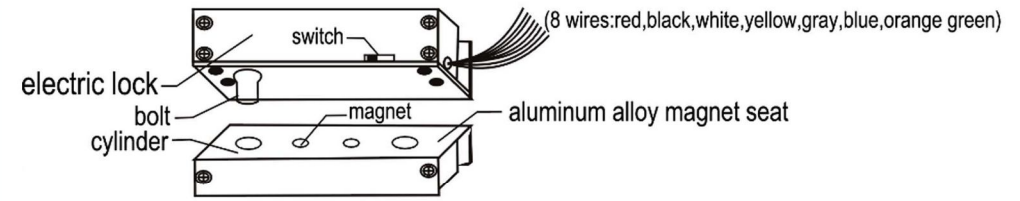
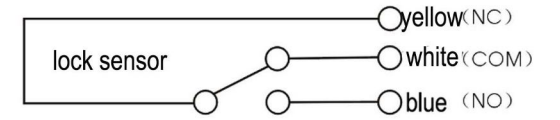
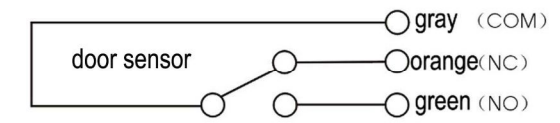

Figure 1
Figure 3
Figure 4
- 2.3. There are red,black,blue,white,yellow,gray,orange,green 8 wires (Figure 1). red connect to power positive,black conect to power negative. Blue,white,yellow are lock sensor output wires blue (NO),white(NOM),yellow(NC) (Figure 3). Gray,orange,green are door sensor output wires green(NO),gray(COM),orange(NC) (Figure 4).